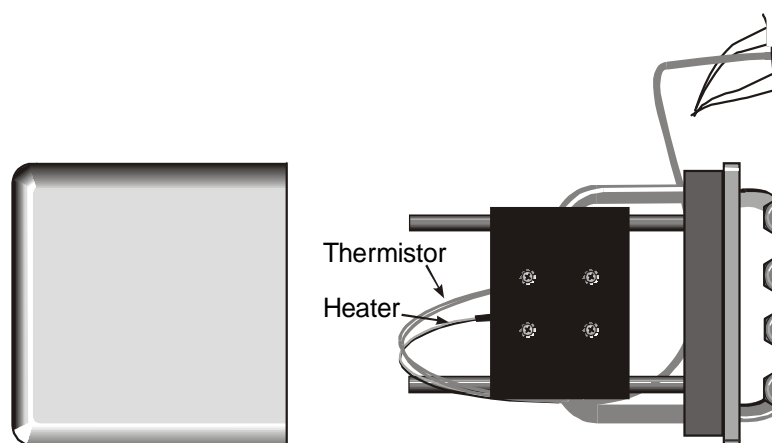

Figure 4-4: Removing the Heater and/or Thermocouple
- a. Refer to Figure 4-4, which illustrates removal of the Thermistor and/or Heater from the Cell Compartment. Exploded view is as seen from the bottom of the Cell Block.